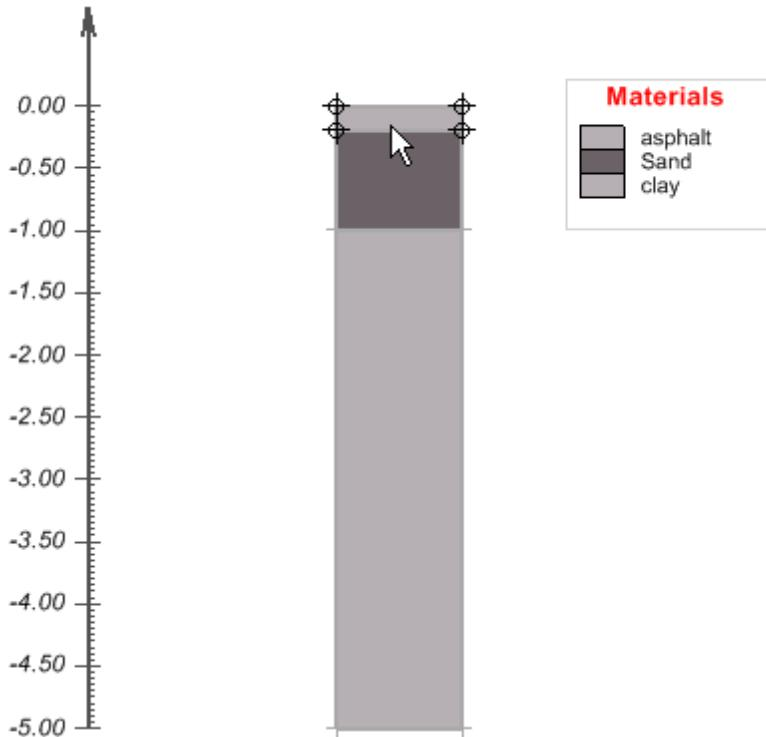

Figure 2 Quickly open a region properties dialog
You can open a particular region properties dialog by moving mouse onto a particular region, and then double clicking the region, as shown in Figure 2.
1. Select **R1** geometry by moving mouse to and clicking the region, as shown in Figure 2,